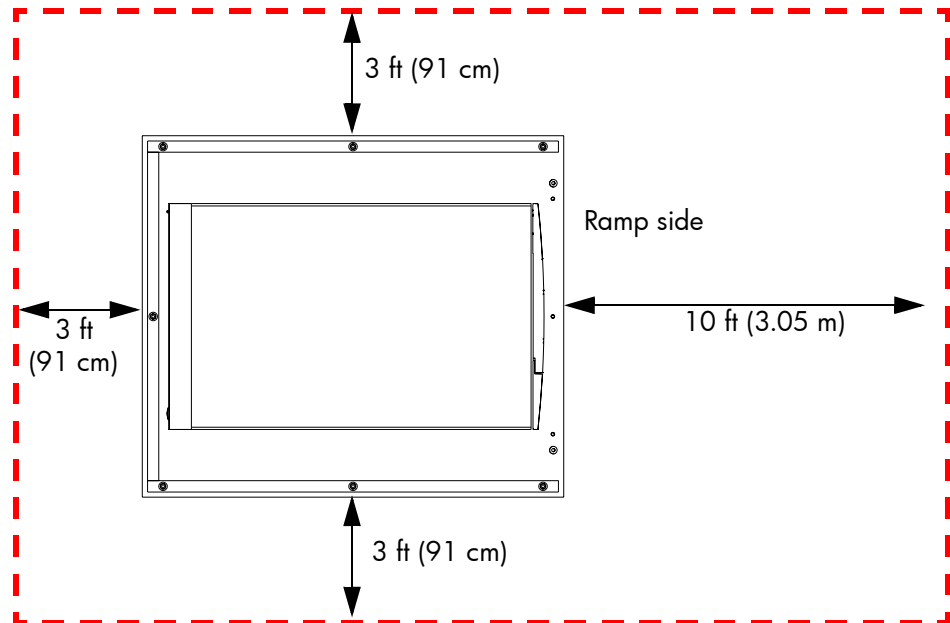

Figure 4: Minimum floor space requirements - unpacking site
1. Note the side of the pallet where the library will be unloaded. The library may be unloaded from only the ramp side of the pallet (see Figure 4 on page 19).
2. Verify the minimum floor space requirements (see Figure 4).
Note: Figure 4 shows the minimum floor space required by the library at its unboxing site. Unboxing the library requires a minimum of 3 feet (91 cm) on all sides. The side used for the unloading ramp requires 10 feet (3.05 m). The minimum height required for unpacking the library is 85 inches (2.16 meters).